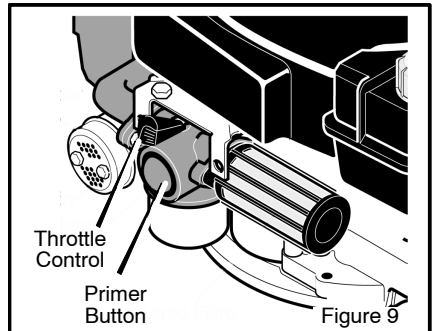

Figure 9
2. If the engine continues to run, move the throttle control to the STOP position (see Figure 9).
When starting a cold engine, push the **primer button** five times (see Figure 9). Wait approximately two seconds between each push.
ing, the throttle control must be in the RUN position. (see Figure 9).